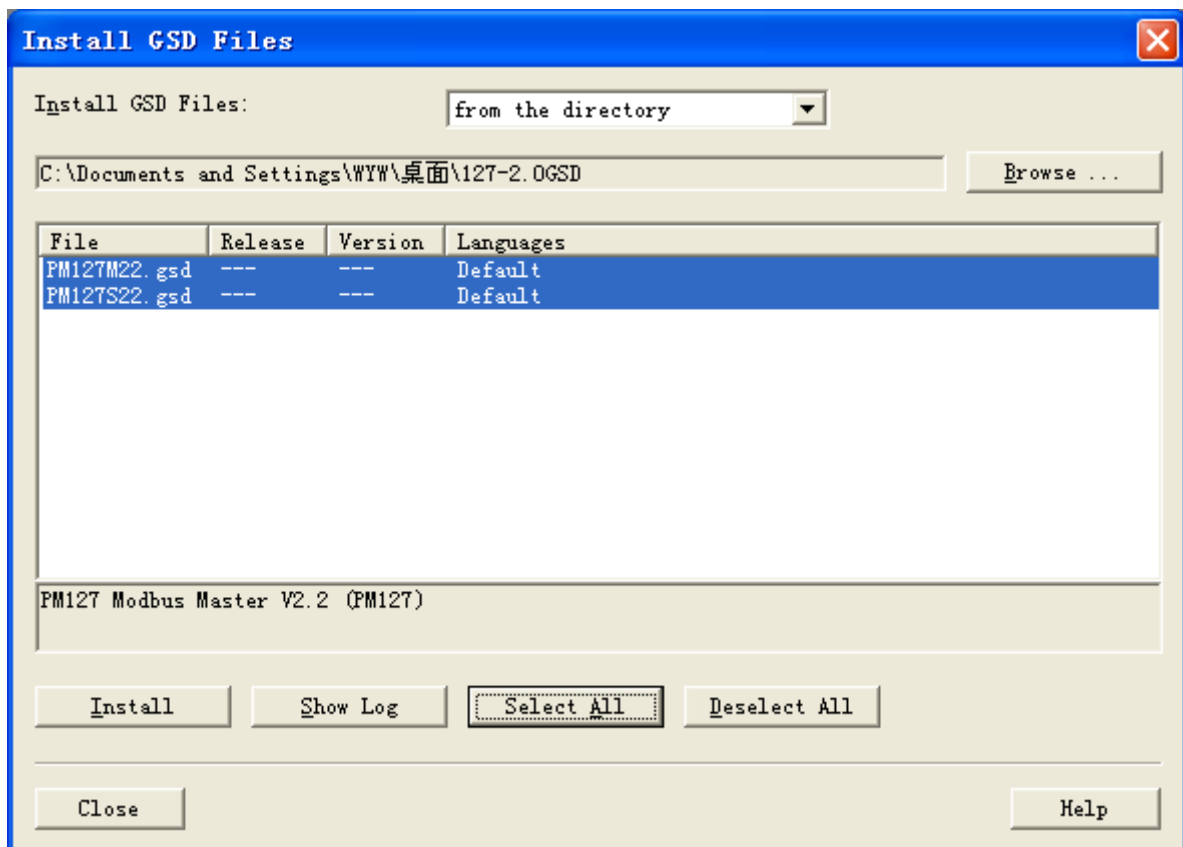

Figure 7
2. The interface is shown as Figure 7, select PM127M22.gsd or PM127S22.gsd, click “Install”, and click “Close” after registering completely, close the register window.